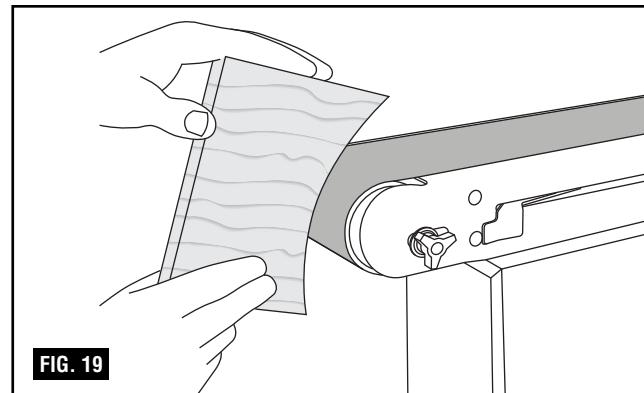

FIG. 19
Sanding curved edges (Fig. 19 & 20)
1. Always sand inside curves on idler drum as shown in figure 19.